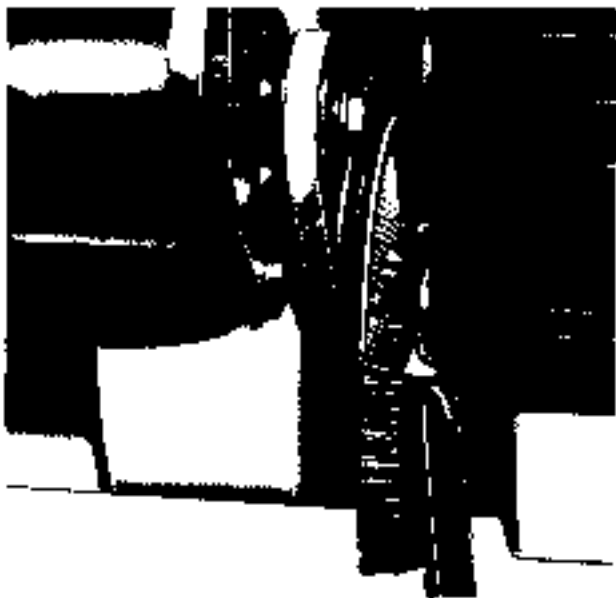

Figure 14
5. Clean flywheel screen. Use a brush similar to a wire brush or an automotive snow brush. Check and clean regularly. Clean engine fins at same time. Clean screen from R.H. side of tractor. Clean as far as you can reach, turn engine over until part of screen which is not cleaned is exposed and finish cleaning. See Figure 14. Remove spark plug wire to avoid accidental starts.
ENGINE COOLING SCREEN - Check and clean engine air cooling screens. Use a narrow wire brush or a brush similar to an automotive snow brush. (See Figure 14.)